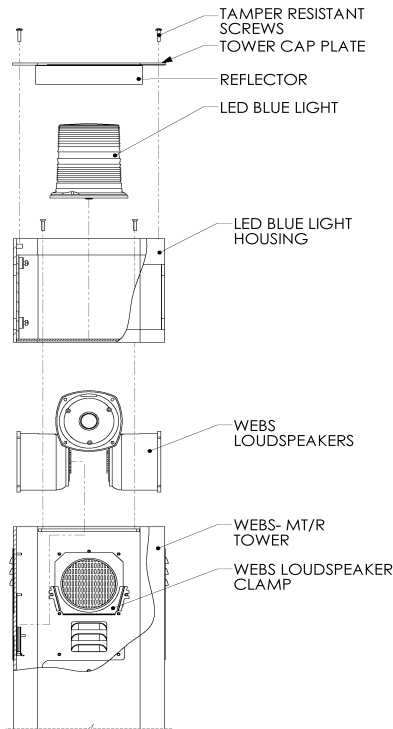

Figure 1. Installing the LED Blue Light.
3. Take off the tower cap plate as shown in **Figure 1**. Install the LED Blue Light to the base of the LED blue light housing. Reattach the tower cap plate.